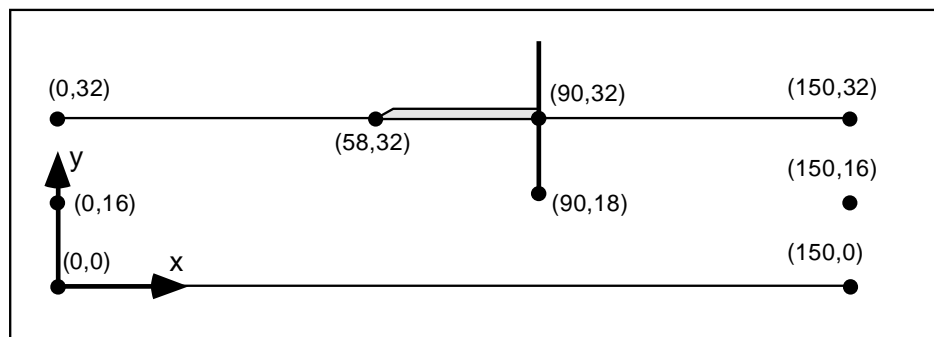

Figure 16.2 Coordinate System.
Before we construct the mesh, we must first establish a coordinate system. We will use a coordinate system with the origin 90 feet upstream of the sheet pile at the top of the bedrock as shown in Figure 16.2.
3. Using the coordinate information in the bottom part of the window to help you position the cursor, create a node at each of the following coordinates (the coordinates shown in Figure 16.2):